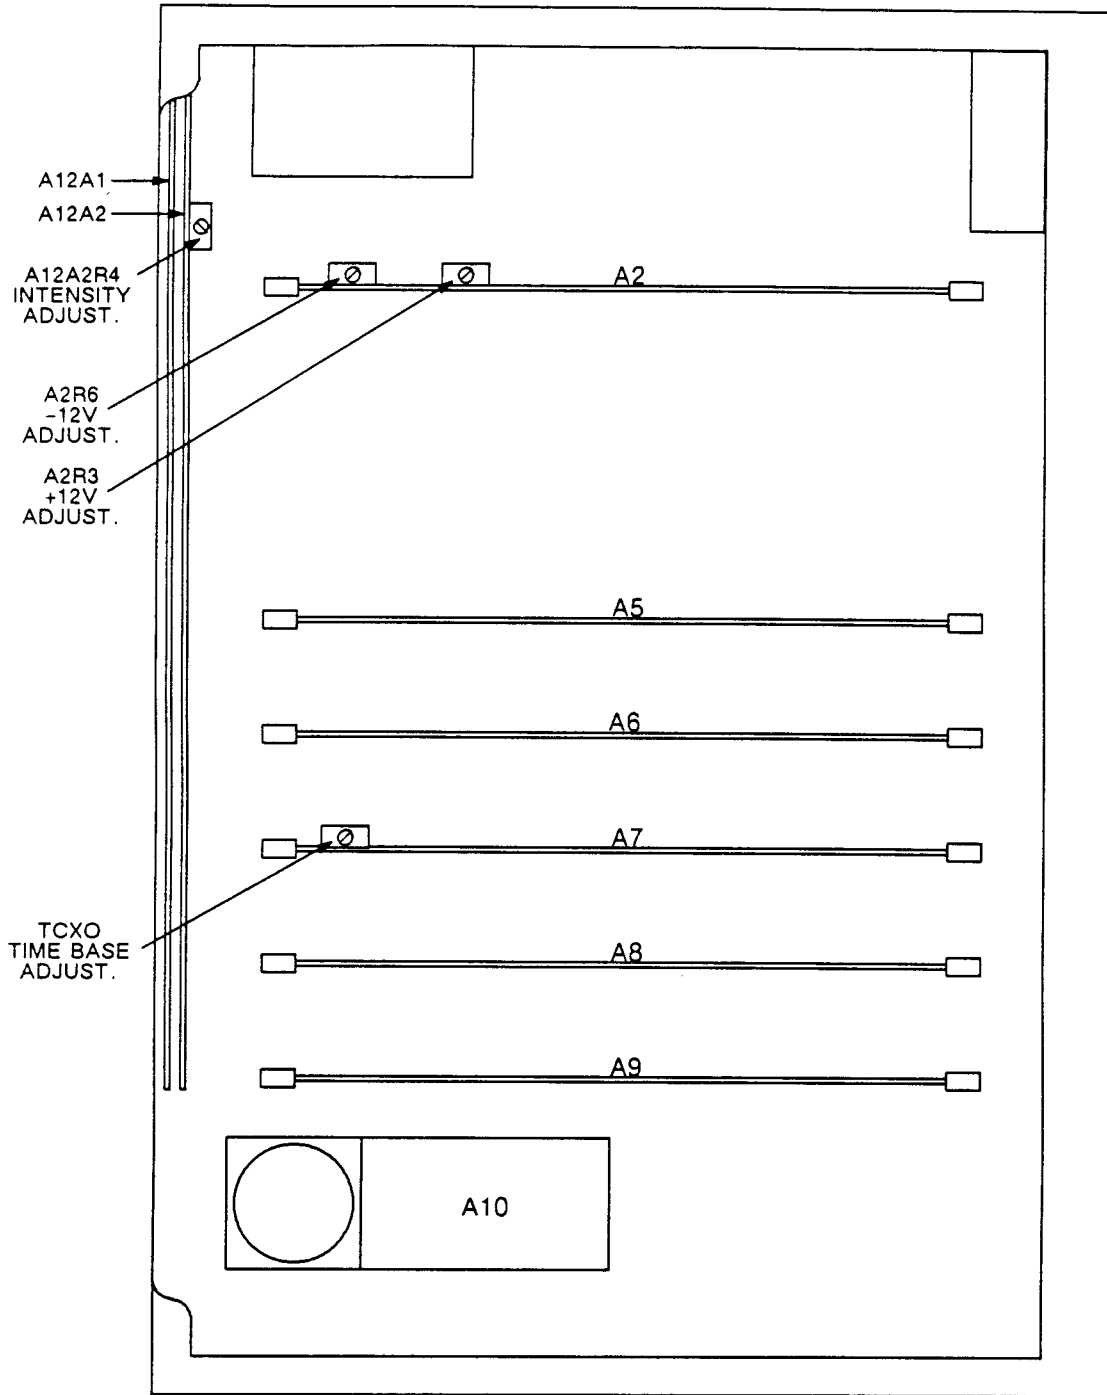

Figure 7-1. Adjustment Control Locations.
6. Set the 585B/588B TCXO frequency control (on gate generator PCB A7) to 10 MHz \pm 1 Hz by turning the adjustment screw located on the top of the TCXO case (see Figure 7-1) and observe that the 545B counter displays 10 MHz \pm 1 Hz.